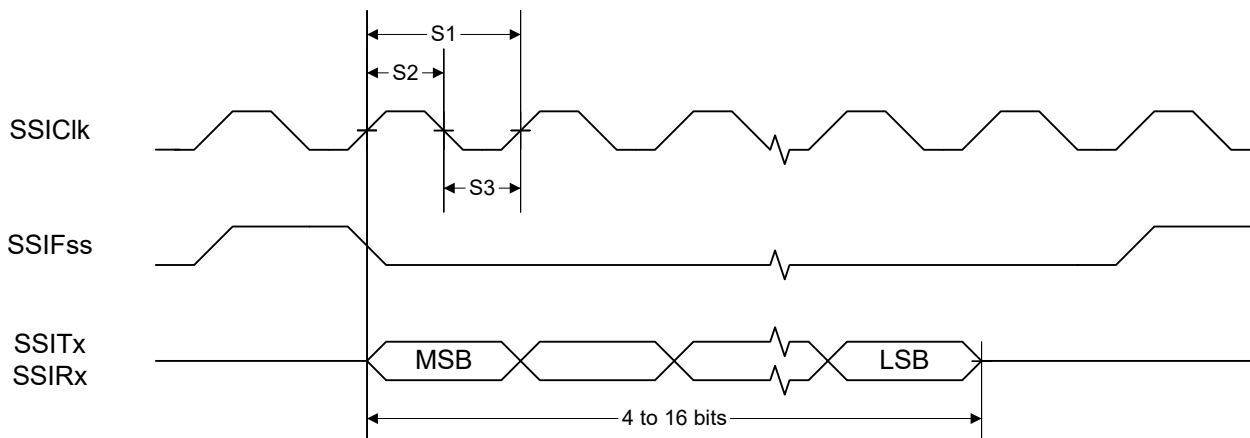
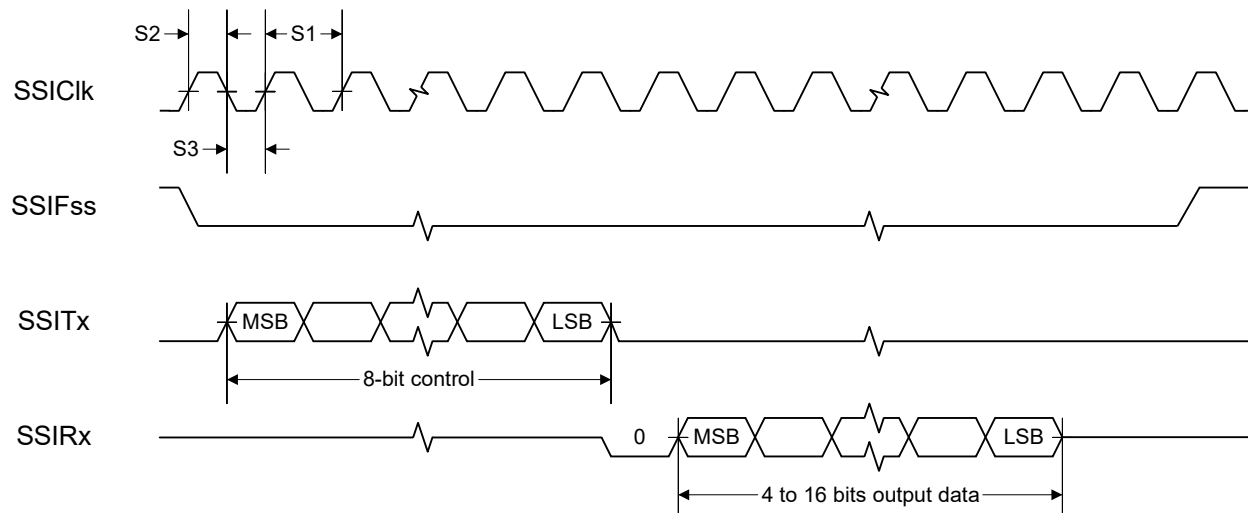
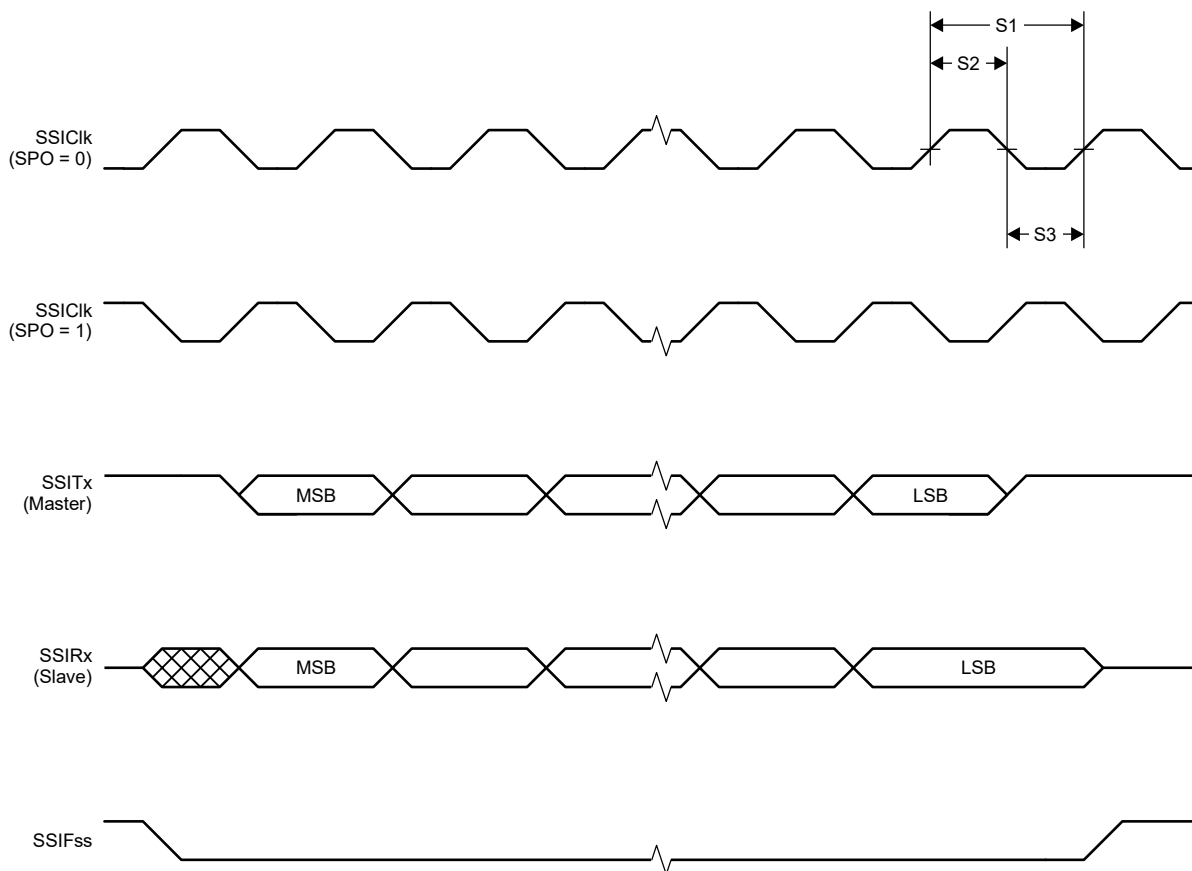

Figure 5-1. SSI Timing for TI Frame Format (FRF = 01), Single Transfer Timing Measurement
Figure 5-2. SSI Timing for MICROWIRE Frame Format (FRF = 10), Single Transfer
Figure 5-3. SSI Timing for SPI Frame Format (FRF = 00), With SPH = 1
- (2) Applications using RCOSC\_LF as sleep timer must also consider the drift in frequency caused by a change in temperature (see Section 5.13).
- (3) TA = -40°C to 85°C, VDDS = 1.7 V to 3.8 V, unless otherwise noted.
- (4) Tc = 25°C, VDDS = 3.0 V, unless otherwise noted. Device operating as SLAVE. For SSI MASTER operation, see Section 5.23.
- (5) Refer to SSI timing diagrams Figure 5-1, Figure 5-2, and Figure 5-3.
- (1) Device operating as MASTER. For SSI SLAVE operation, see Section 5.22.
- (2) Refer to SSI timing diagrams Figure 5-1, Figure 5-2, and Figure 5-3.